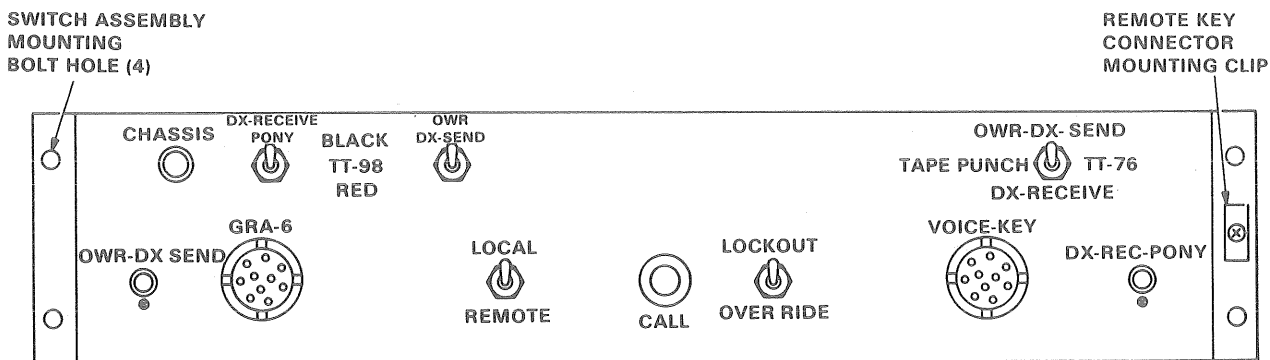

Figure 10. Radio Teletypewriter Set AN/GRC-142A, -142B, or AN/GRC-122A, -122B, Switch Assembly, Controls, Indicators, and Connectors.
- (9) Set TT-98 OWR DX-SEND BLACK RED switch as shown in figure 10 for the AN/GRC-142A-142B or AN/GRC-122A-122B to the RED position.